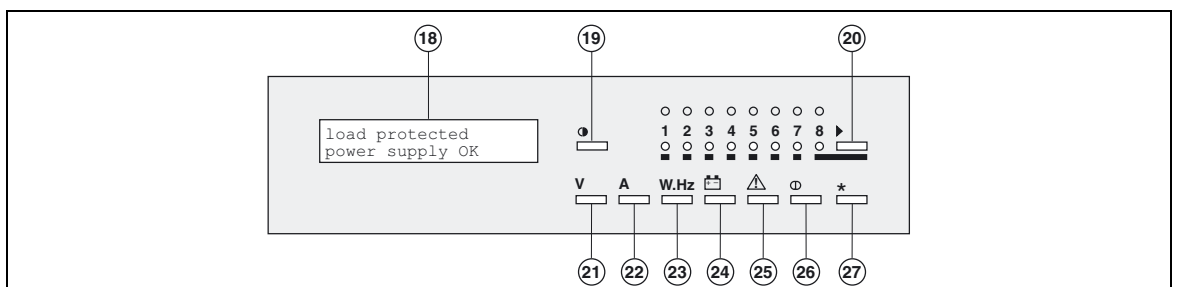

Fig. 30
– **local operation.** The "Monitor" alphanumeric display (see figure 30) may be installed behind the hinged cover of the hidden panel (see figure 21) on the control panel in all types of cubicles (UPS or Static Switch Cubicle).